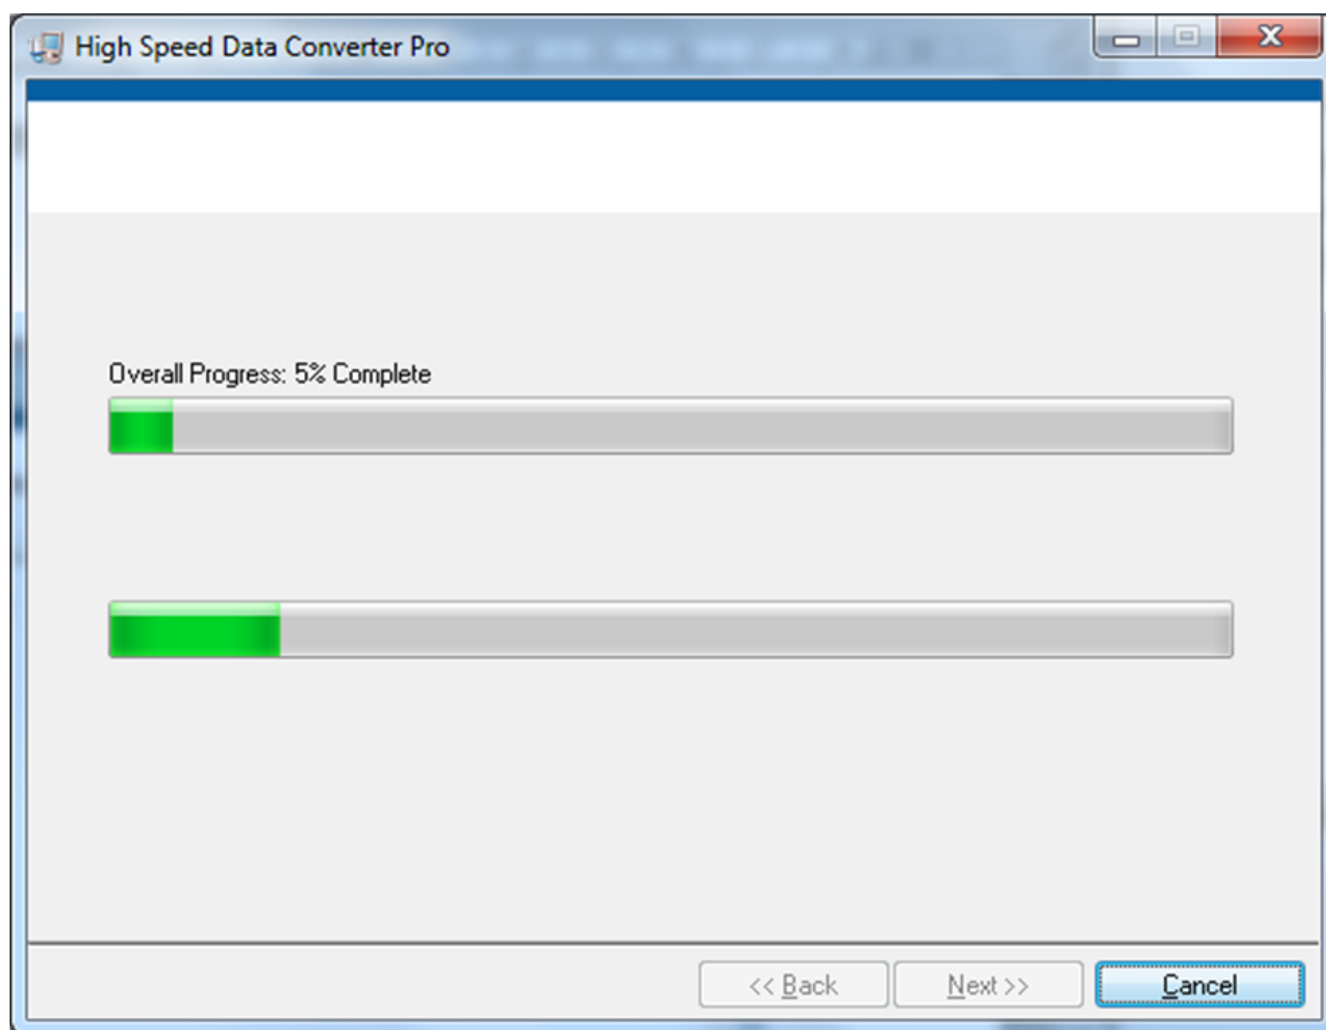

Figure 26. HSDCPro Install (Installation Progress)
- The window shown in Figure 26 should appear indicating that the installation is in progress.